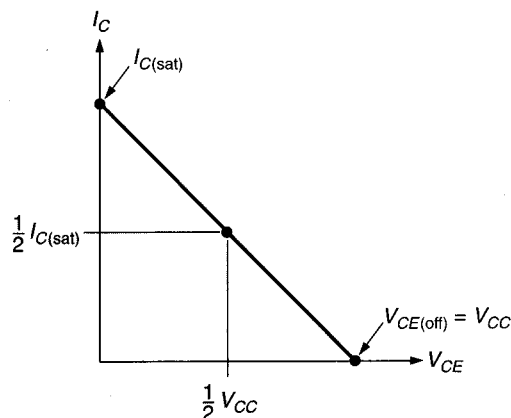

FIGURE 7.7 The  $Q$ -point for a midpoint-biased circuit.
For linear operation of an amplifier, it is desirable to have the  $Q$ -point centered on the load line. When you have a centered  $Q$ -point,  $V_{CE}$  is half the value of  $V_{CC}$ , and  $I_C$  is half the value of  $I_{C(sat)}$ . This is illustrated in Figure 7.7. As you can see, the centered  $Q$ -point provides values of  $I_C$  and  $V_{CE}$  that are half their maximum possible values. When a circuit is designed to have a centered  $Q$ -point, the amplifier is said to be **midpoint biased**.
**Solution:** By definition, a circuit is midpoint biased when the  $Q$ -point value of  $V_{CE}$  is one-half of  $V_{CC}$ . This relationship was illustrated in Figure 7.7.